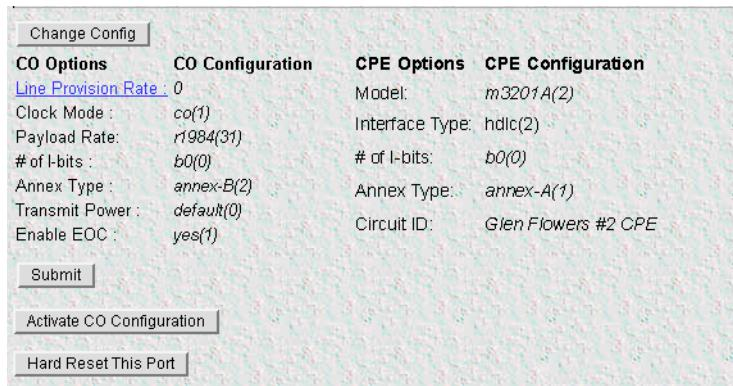

Figure 55. G.SHDSL port configuration section of the G.SHDSL Port Details window
The *G.SHDSL Port Details* window displays port configuration information in two port configuration tables, located near the bottom of the window (see figure 55):
- Display-only mode—You can view all the parameter values, but can not define any parameter values (see figure 55).
Note Clicking on the **Change Config** button (see figure 55) changes mode from display-only to change mode. Clicking on the **Cancel** button returns to display-only mode.
The CO Configuration table (see figure 55 on page 120) shows the following parameters: